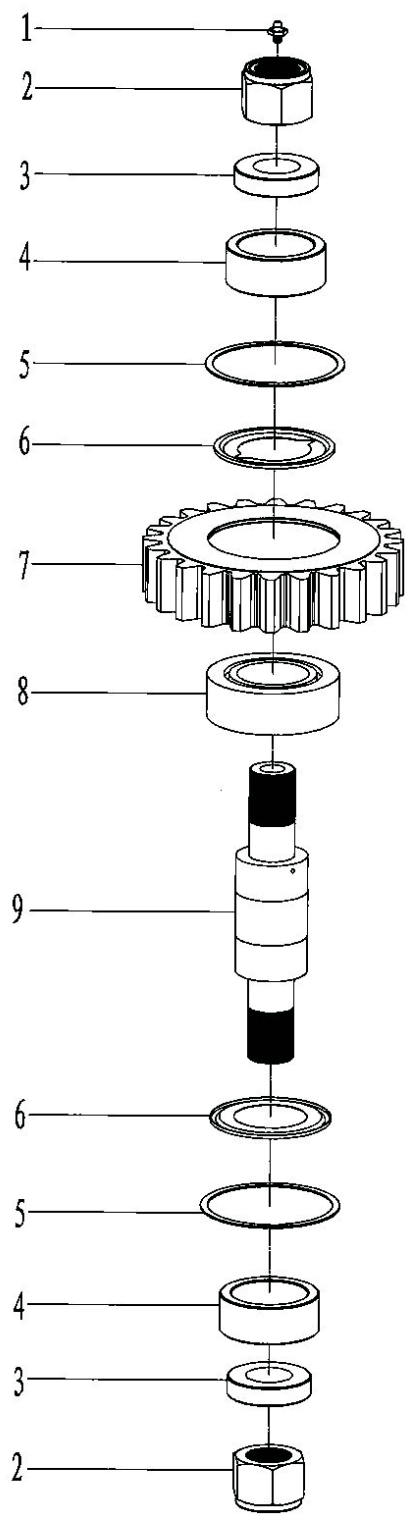

Fig 5
7.4 Small idler gear assembly (Fig 5, Fig,6, Table 4)